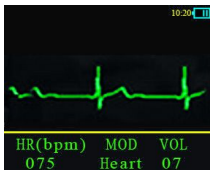

Fig.5-1 ECG monitor interface
(1) Let the patient keep calm.
(2) Daub some medical conductive paste to the surface of the three electrodes well-proportioned.
- (3) Press "⏻" long to turn on the device, and it will enter the ECG monitor interface (do not connect the oximeter probe to the device), see Fig.5-1.
- (4) Hold the device and stick to the chest of patient. All the three electrodes should stick to the skin upon heart. It can display the real-time ECG. (User can adjust the wave scale according to the system settings, see chapter 5.2).
- (5) When monitoring, short press "⏻" to halt the wave. Then operators observe the wave carefully, short press "⏻" again to continue monitor after observing.
- (6) Press "⏻" long to turn off the device after measuring.